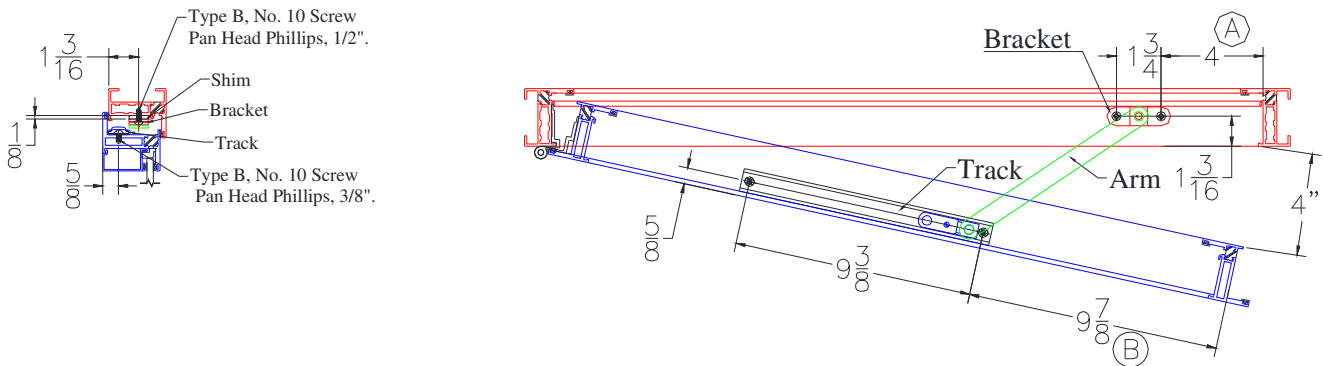

Figure 1:
1. Open the vent to the desired opening (Figure 1).
3. Mark location of four (4) holes.
5. Install the bracket & shim to frame with two (2) #10 PHP-B 0.5" screw.
6. Install the track to vent with two (2) #10 PHP-B 0.375" screw.